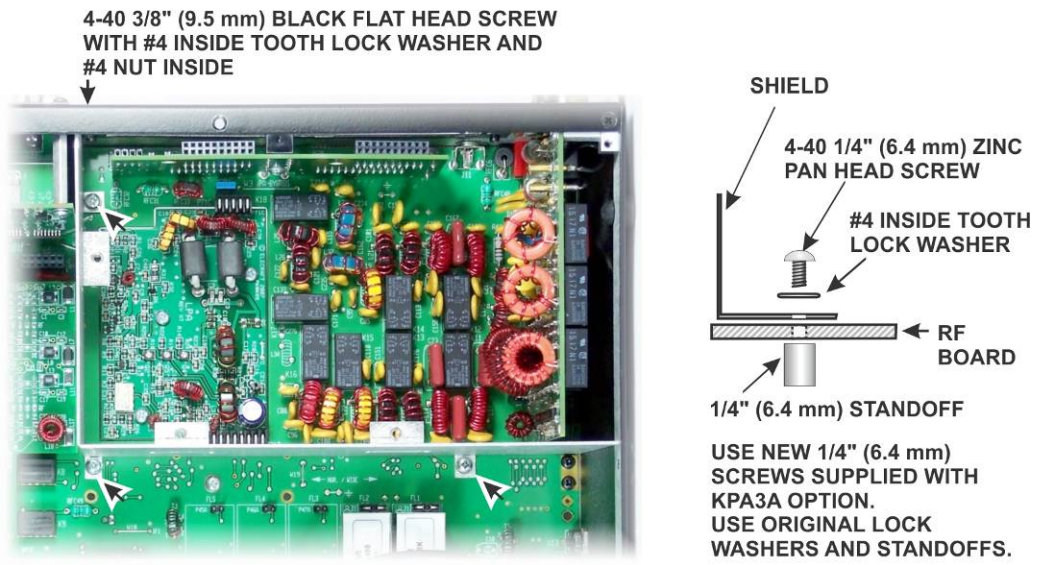

Figure 8. Rear Shield Installed.
- Loosely secure the rear shield with three 1/4" (6.4 mm) zinc pan head screws, the lock washers and standoffs you removed earlier as shown in Figure 8.
- Place a black 4-40 3/8" (9.5 mm) flat head screw through the hole in the back panel and the tab at the top edge of the shield as shown in Figure 8. Secure it with a #4 inside tooth lock washer and 4-40 nut.